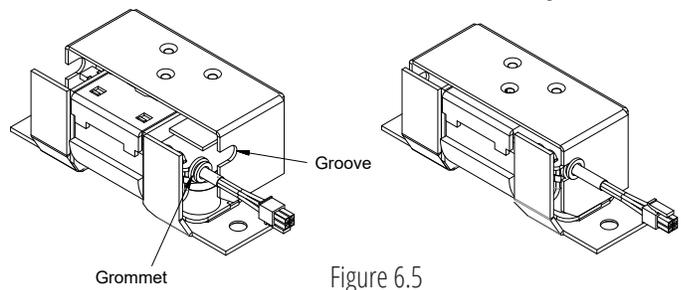

Figure 6.5
**Important Note:** After making any changes mentioned above, make sure that the rubber Grommet sits accurately into the groove of the back cover plate as shown in figure 6.5 while reassembling.